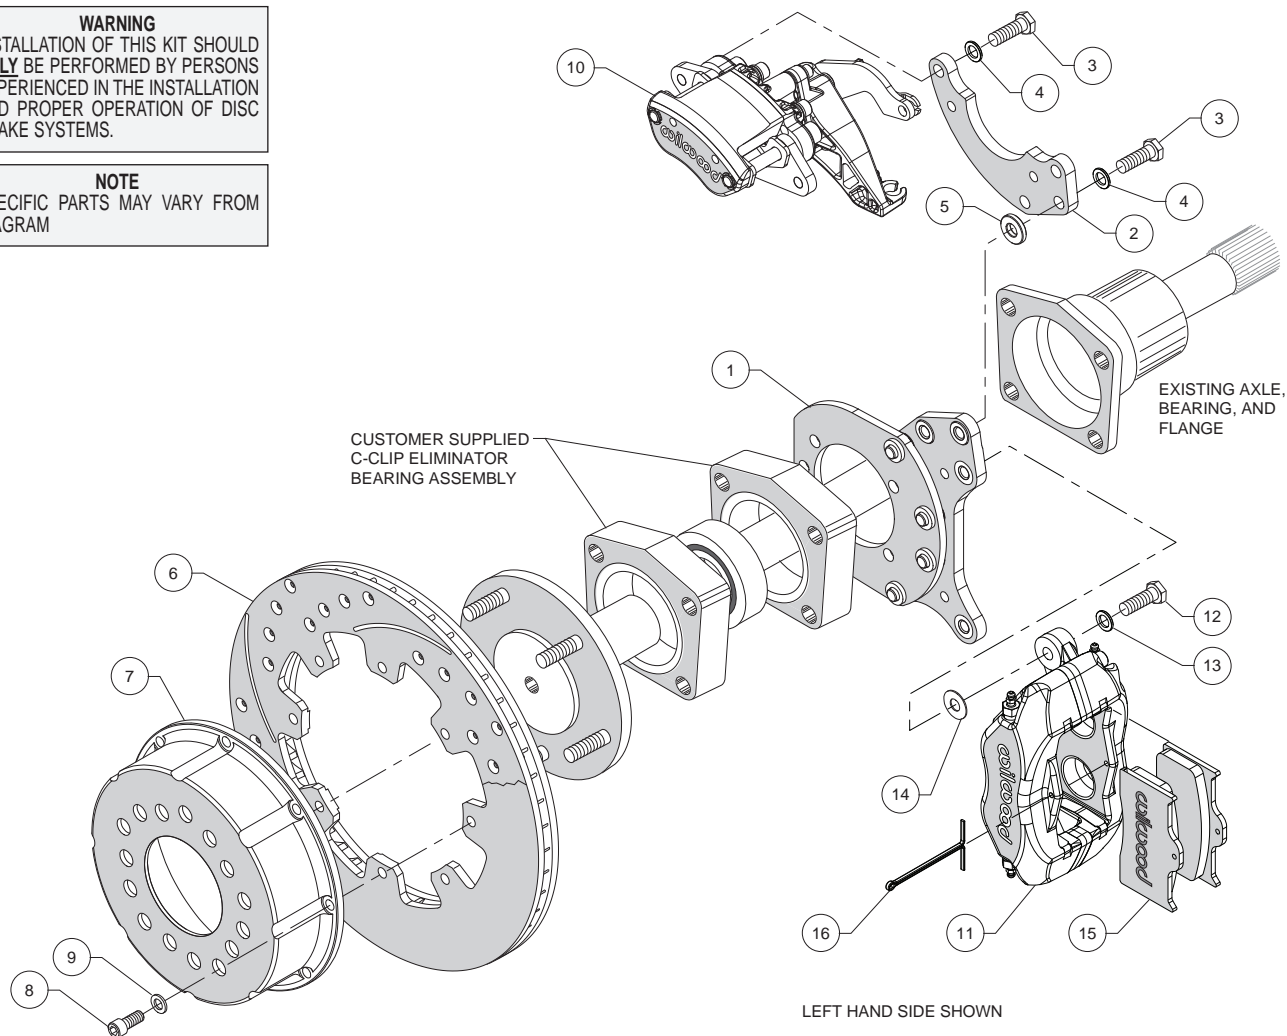
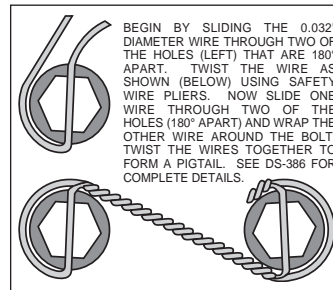
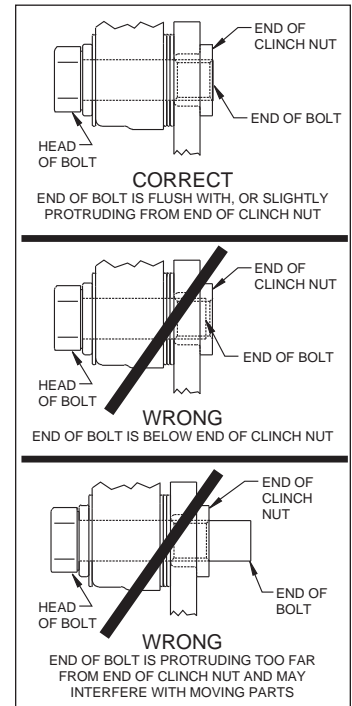

Figure 1. Typical Installation Configuration
Figure 4. Safety Wire Diagram
Figure 5. Clinch Nut Engagement Diagram
Assembly Instructions (numbers in parenthesis refer to the parts list, and Figure 1 on the preceding pages): **CAUTION: All mounting bolts must fully engage clinch nuts.** Be sure to check that all bolts are either flush or protruding through flanged side of clinch nut after shiming, Figure 5.
- Attach the MC4 flat caliper bracket (2) to the axle flange caliper mount bracket (1) using bolts (3), washers (4), and spacer (5) as shown in Figure 1 and Photo 1. Apply red *Loctite*® 271 to the bolt threads and torque to 40 ft-lbs.
- Orient the bracket assembly as shown in Figure 1, and mount to the axle housing flange, along with the C-clip eliminator bearing assembly (customer supplied), using the fasteners included in the bearing kit, Figure 1. Temporarily tighten the mounting bolts. **NOTE: The bracket assembly must fit squarely against the axle housing flange.** Inspect for interference from casting irregularities, machining ridges, burrs, etc. Apply red *Loctite*® 271 to the bolt threads and torque to the C-clip eliminator manufacturer's specification.
- Orient the rotor (6) and the hat (7) as shown in Figure 1 and Photo 2. Attach rotor to hat using bolts (8) and washers (9). Using an alternating sequence, apply red *Loctite*® 271 to the threads, and torque to 180 **in-lbs**. Bolts **MUST** be safety wired using standard 0.032 inch diameter stainless steel safety wire as shown in Figure 4. Please refer to Wilwood's data sheet DS-386 (available at www.wilwood.com/Pdf/DataSheets/ds386.pdf) for complete safety wire installation instructions.
- Align the correct hole pattern in the hat with the stud pattern on the axle flange and slide into place, Figure 1. **NOTE:** The rotor/hat must fit flush against the axle flange or excessive rotor run out may result. Install three lug nuts (finger tight) to keep the rotor/hat assembly in place while continuing with the installation.
- NOTE:** Please reference the caution statement at the beginning of the assembly instructions. Mount the caliper (11) onto the caliper mounting bracket (1) using bolts (12) and washers (13), as shown in Figure 1. Initially place one .035" thick shim (14) on each bolt between the caliper and the bracket, Photo 3. Temporarily tighten the mounting bolts and view the rotor (6) through the top opening of the caliper. The rotor should be centered in the caliper, Photo 4. If not, adjust by adding or subtracting shims between the bracket and the caliper. Always use the same amount of shims on each of the two mounting bolts. **NOTE:** The end of each bolt must be flush with or slightly protruding from the head of the clinch nut, as shown in Figure 5. If necessary place spare shims between washer (13) and caliper mounting ear to achieve the proper clinch nut engagement. Once the caliper alignment and clinch nut engagement are correct, remove the bolts one at a time, apply red *Loctite*® 271 to bolt threads, and torque to 40 ft-lb.
- Install the disc brake pads (15) into the caliper, with the friction material facing the rotor (6), Photo 5, and secure in place using cotter pin (16), Photo 6.
- Mount the parking brake caliper (10) onto the caliper mounting flat bracket (2) using bolts (3) and washers (4), as shown in Figure 1 and Photo 7. Apply red *Loctite*® 271 to bolt threads, and torque to 40 ft-lb.